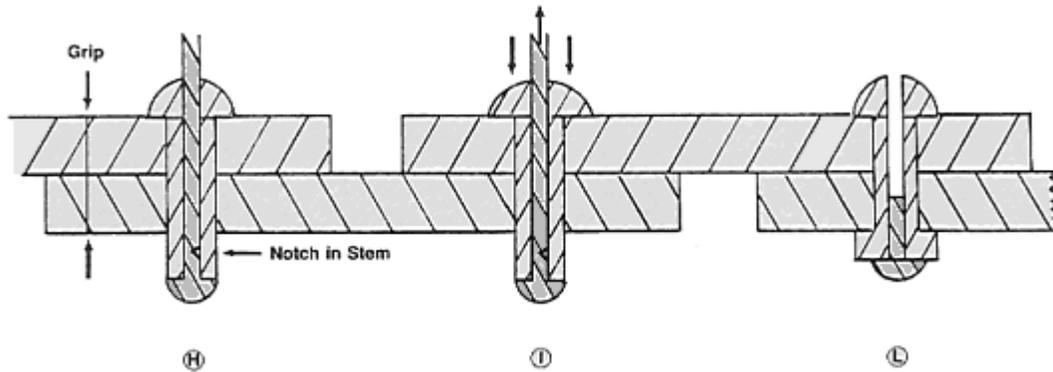

Fig. 3
When setting a blind rivet we first drill a slightly oversize hole so that the rivet can easily be inserted (see item H, Figure 3).
A special hand rivet puller (hand rivet gun from a local hardware store - at \$15 to \$50, depending on quality) is used to pull on the rivet stem and the reaction is applied to the rivet head. The stem has a special head which compresses the rivet tube and makes it grow and fill the hole (see item 1, Figure 3) pulling further. The rivet can only grow outside the parts until the rivet and stem head create a good formed head resting well on the part and squeezing the parts together. At that stage, the stem breaks in tension at the notch. (The set rivet is shown in item L, Figure 3.)